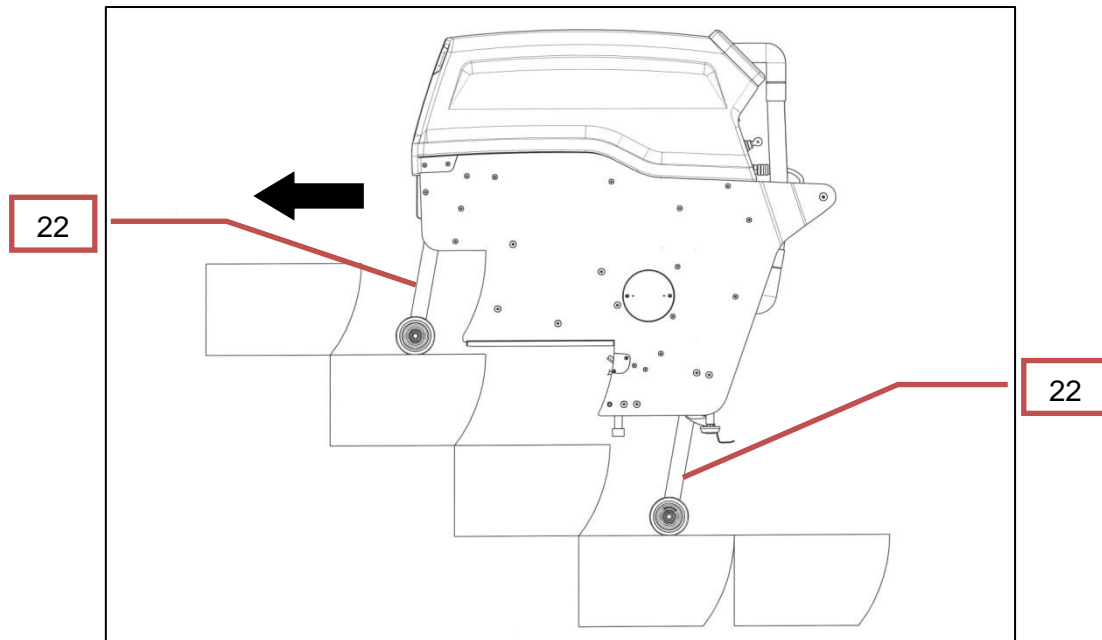
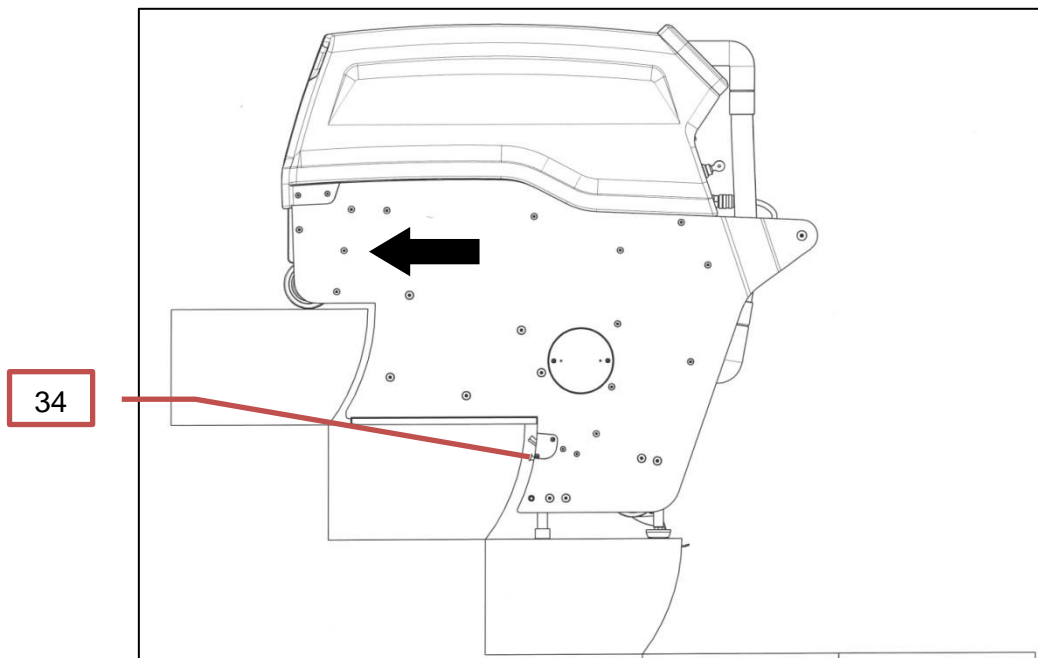

Figure 4 Fixing the machine
Figure 9 Positioning the machine
The machine with extended lifting spindles (18) should then be shoved into the escalator and moved by authorised escalator operators to the first completely extended step (Fig. 4: Fixing the machine).
- Switch the key switch (5) to “1”.
- Press the T3 shortcut key (56).
- If necessary, adjust the cleaning cycle runtime using the “increase cleaning cycle runtime” (49) and the “decrease cleaning cycle runtime” (50) arrow keys. The currently set cleaning cycle runtime can be read off the display (14).
- Press the AUTO START key (10)
In order to achieve an ideal moisture content on the brushes, the first step should be cleaned twice at the beginning of the cleaning operation. After the machine - lying on the left side of the escalator - is shoved into the escalator step until the wheels stop until the seal strip (34) is arrested (Fig. 9: Positioning the machine).
The pre-selected programme can now be started. When the cleaning cycle has been completed, the machine is raised (Fig. 9: Raising the machine).
The machine is then shoved forward again until the wheels stop on the next highest step (Fig. 4: Fixing the machine), and then lowered again. The machine can now be shoved on the glide rails into the new working position (Fig. 9: Positioning the machine).